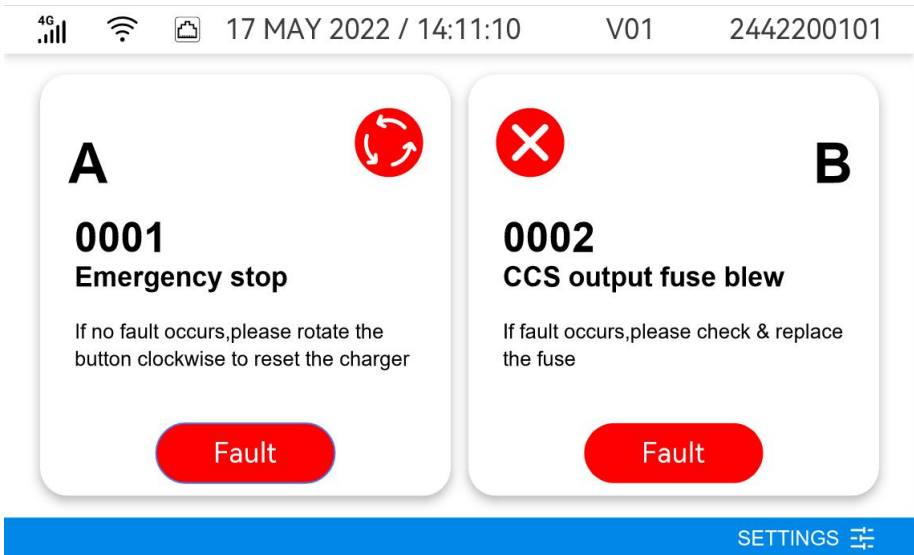

Fig. 6-7 Display of fault state
■ If the charging process fails or the equipment fails, the picture displayed on the LCD screen is shown in Fig. 6-7.